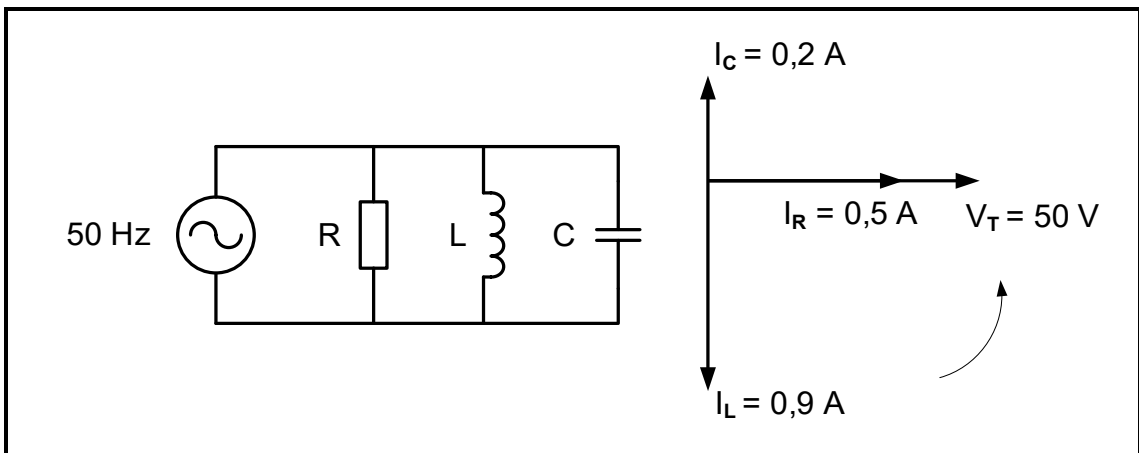

FIGURE 3.4: RLC PARALLEL CIRCUIT AND PHASOR DIAGRAM
3.4 FIGURE 3.4 below shows an RLC parallel circuit with its corresponding phasor diagram. Answer the questions that follow.
- 3.5 State whether the circuit in FIGURE 3.4 on the previous page is more capacitive or more inductive. Give a reason for the answer. (2)
- 3.6 Refer to FIGURE 3.4 on the previous page and explain how an increase in the supply frequency will cause the circuit to resonate. (3)